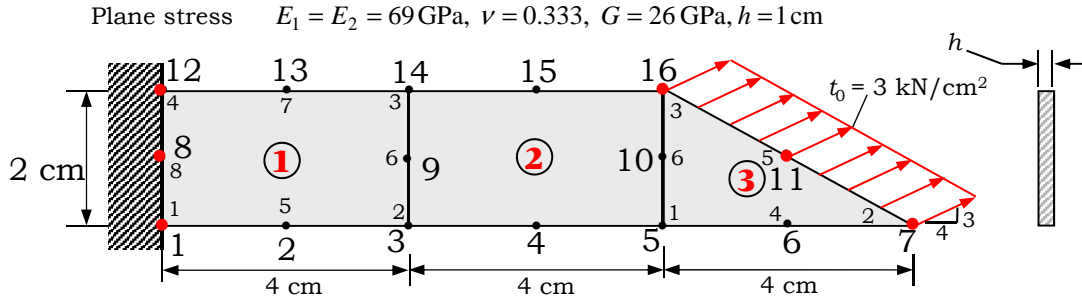

Figure 1: A plane elasticity problem.
**Problem 3:** For the plane elasticity problem shown in Figure 1, give (a) global stiffness coefficients  $K_{99}$ ,  $K_{9(32)}$ , and  $K_{(10)(28)}$ ; and (b) the specified boundary degrees of freedom and compute the contribution of the specified forces to the nodes.